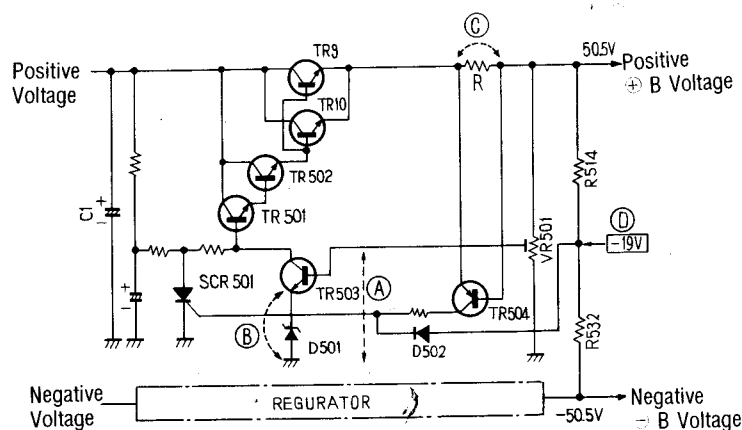

Fig. 1.
Although figure 1 shows only the circuit diagram of the positive power source, the operation principles of the negative power source are exactly the same as those of the positive power source, and their explanation is omitted here.
- When the output voltage (50.5V) becomes high as a result of a voltage variation from the power source, the voltage at point (A) in figure 1 becomes high.
- If excessive current flows to the main amplifier, the voltage drop (R in figure 1) is increased, and TR504 is activated by that voltage (C). When TR504 functions, voltage is generated in the collector, and SCR501 is activated by the bias applied to it. As a result, the base potential of TR501 is decreased to the "cut-off" condition, and, therefore, TR10 does not function and output is not emitted.
- D502, shown in figure 1, is to prevent damage to the main amplifier in the event of an interruption of the negative power.